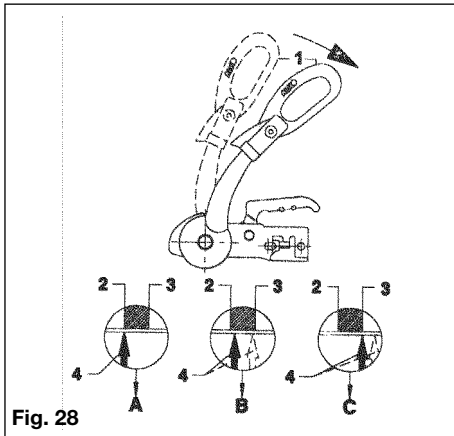

Fig. 28
2. Open Stabiliser lever (Fig. 28/Item 1).
4. If the arrow on the arm (Fig. 28/Item 4) is before or on the marked area (Fig. 28/Item 2) the friction pads are still as new (See A)